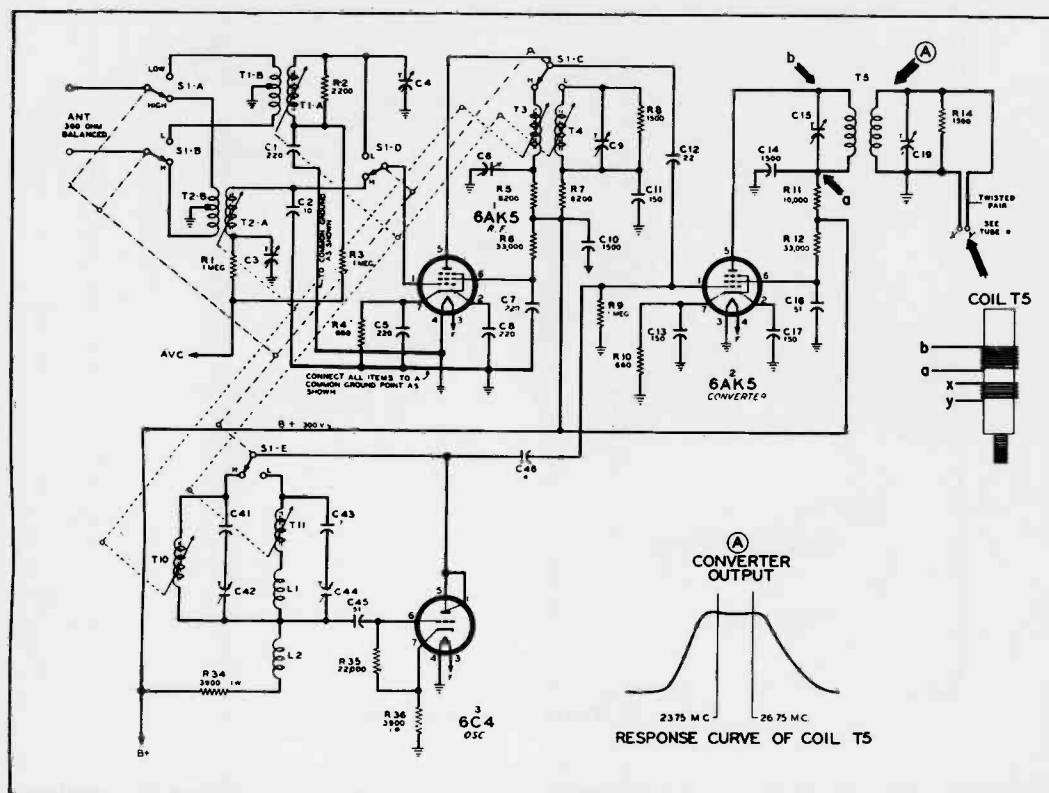

Figure 7. Tuner Section
The r-f amplifier (see figure 7) makes use of a type 6AK5 tube (1) employing higher-than-normal bias in order to reduce input loading on the high-band coils. However, resistor R2 is used to damp low-band coil T1-A.
The converter (see figure 7) makes use of a type 6AK5 tube (2) biased by both cathode bias (R10 and C13) and the oscillator voltage appearing on the grid causing rectification and charging the grid resistor-and-capacitor combination of R9 and C46.
The oscillator (see figure 7) makes use of a type 6C4 tube (3) connected as a modified Colpitts using the cathode-to-grid and cathode-to-plate inter-electrode capacities to maintain oscillation.